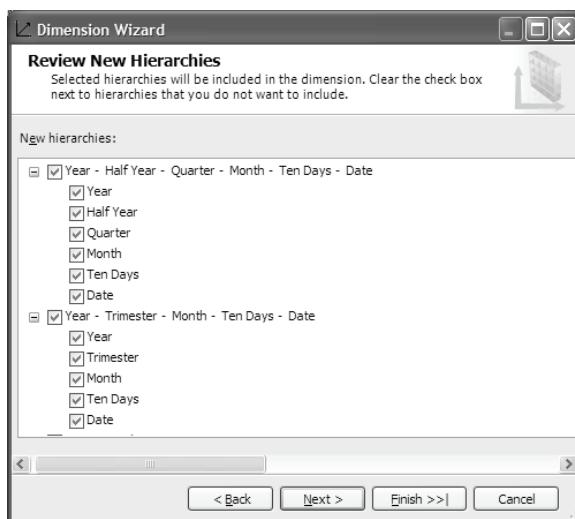

Figure 4.36 Select what hierarchies and levels the Dimension Wizard will generate.
1. Make the selections shown in Figure 4.35 and click Next. The Review New Hierarchies step (Figure 4.36) displays the hierarchies and levels that the Dimension Wizard will generate. Note that the Dimension Wizard is intelligent enough to exclude the attributes that don't apply to a given hierarchy. For example, a hierarchy cannot have both trimester and quarter levels.